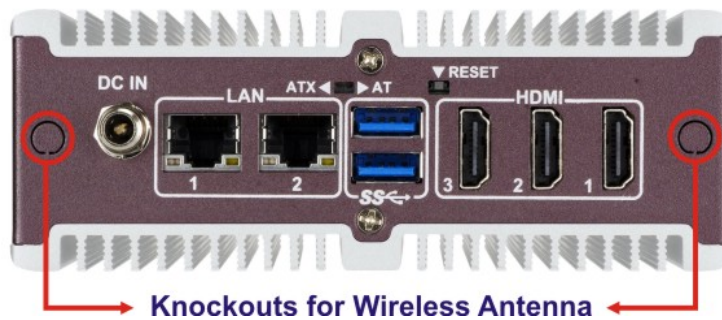

Figure 3-3: Knockouts for Wireless Antenna
- Step 2:** Remove the two knockouts for antenna installation. The two knockouts are located on the rear panel of the IDS-310AI as shown in **Figure 3-3**.